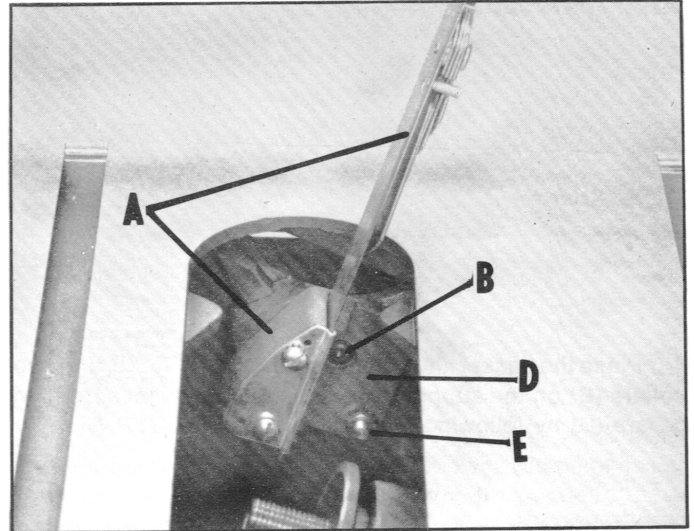
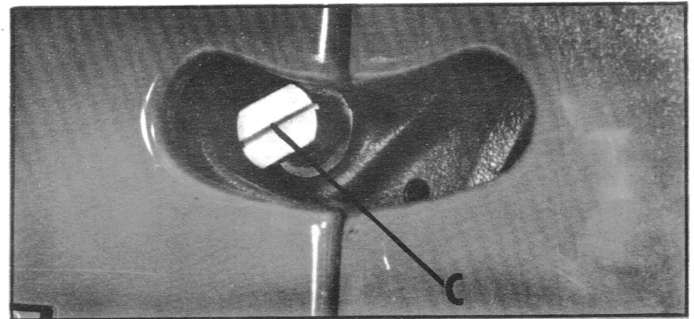
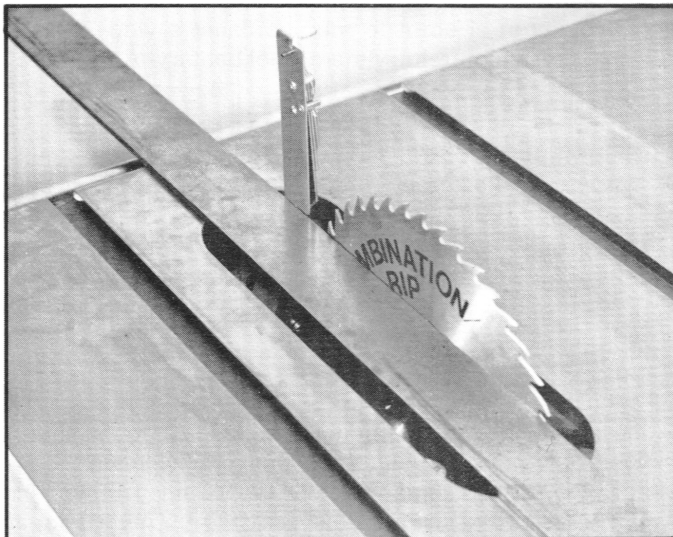

Fig. 14
Fig. 15
Fig. 16
3. Tilt the arbor to the right and assemble the splitter assembly (A) Fig. 14, to the rear trunnion using the button head socket cap screw (B).
4. Insert the special screw (C) Fig. 15, through the hole in the rear trunnion as shown, and through the hole in the splitter bracket (D) Fig. 14, and fasten in place with the external tooth lockwasher and jam nut (E) Fig. 14.
5. Assemble the saw blade onto the arbor and check if the splitter is in alignment with the blade. To accomplish this, place a straight edge on the left side of the splitter and blade as shown in Fig. 16. If an adjustment is necessary, loosen cap screw (B) and jam nut (E) Fig. 14; align the splitter with the blade and retighten the screw and nut.